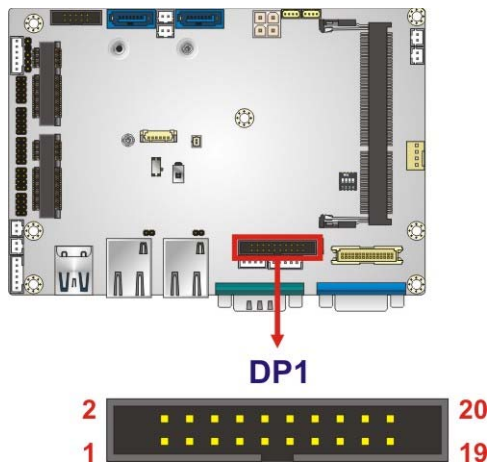

Figure 3-9: Internal DisplayPort Connector Location
- CN Location:** See **Figure 3-9**